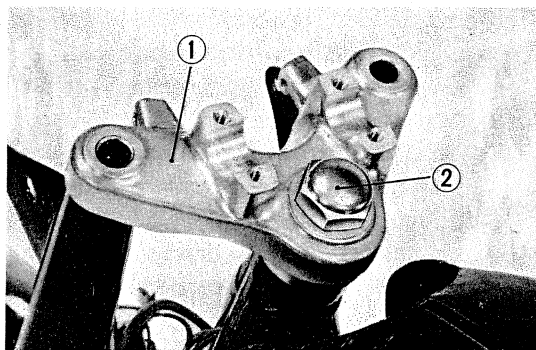

Fig. 123 Fork top bridge removal
- 10) Loosen the steering stem nut and remove the fork top bridge. (Fig. 123)